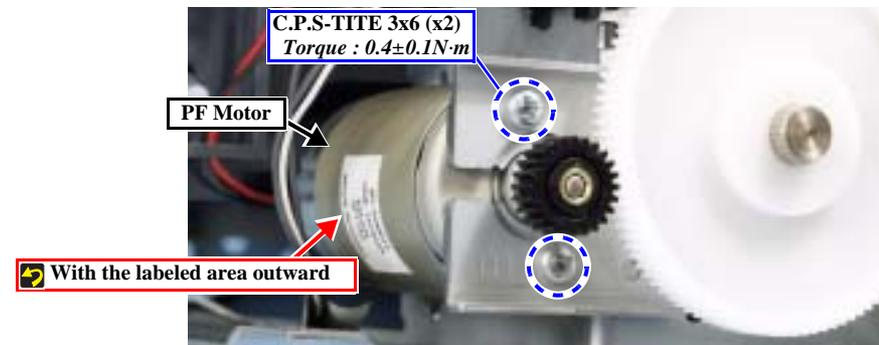

Figure 4-53. Removing the PF Motor
6. Remove the screws (x2) securing the PF Motor, and remove the PF Motor in the lateral direction. (Fig. 4-53)
REASSEMBLY  ■ Install the PF Motor with its labeled area facing outward. (Fig. 4-53)